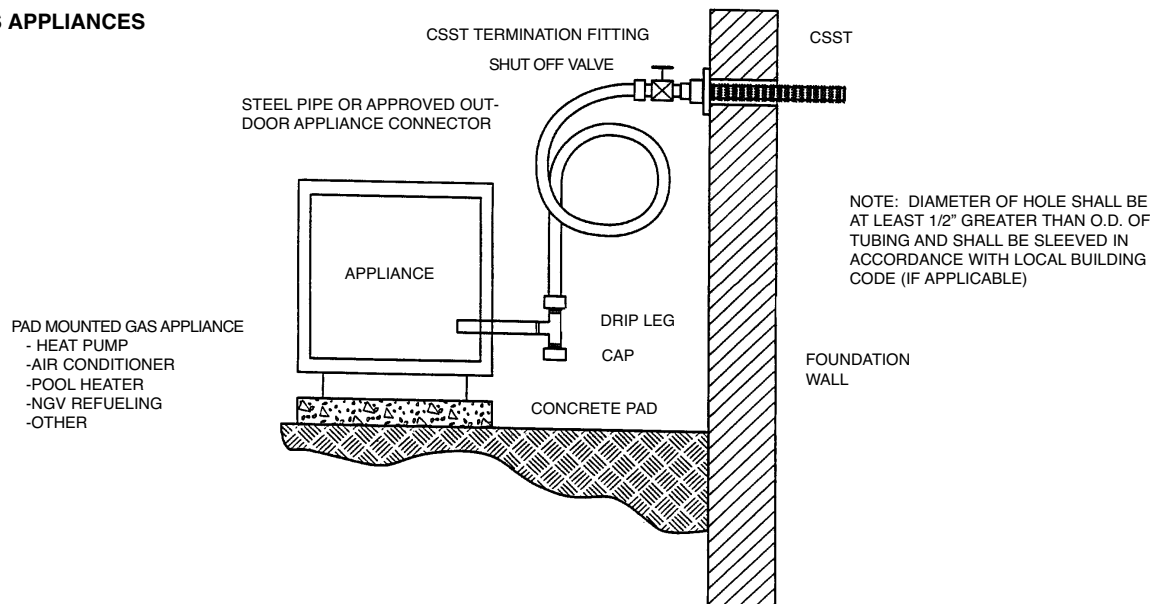

Figure 4.23
- Gas appliances mounted on concrete pads or blocks, such as heat pumps, air conditioners, pool heaters and NGV refueling systems, shall be connected to the WARDFLEX system at a termination fitting using either rigid pipe or an approved outdoor appliance connector as shown in Figure 4.23. Pad mounted equipment (in most cases) is considered “fixed” if not moved for cleaning, maintenance, etc. (i.e. A/C units).